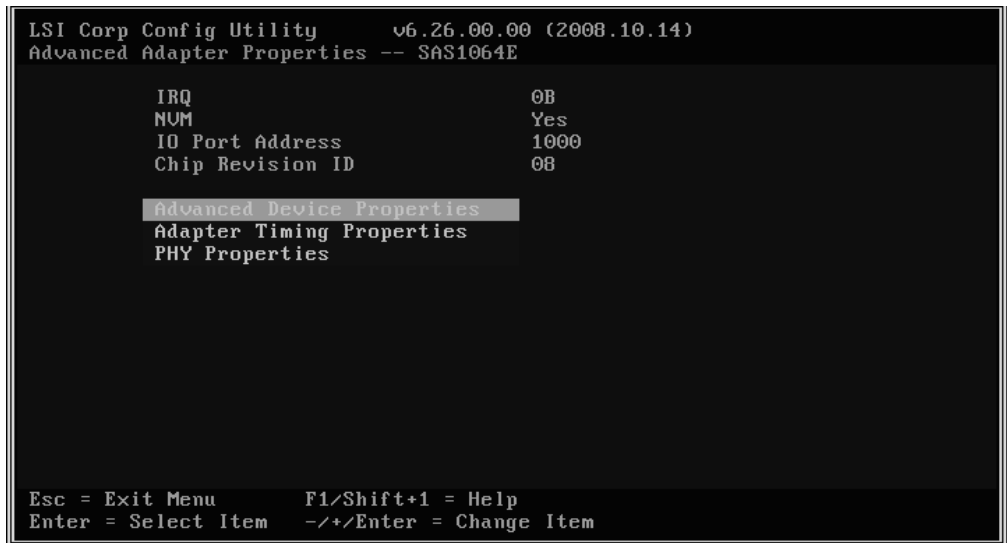

Figure 18. Advanced Adapter Properties screen
4. Use the arrow keys to select **Advanced Adapter Properties**, then press Enter. The Advanced Adapter Properties screen displays as shown in Figure 18 on page 48.